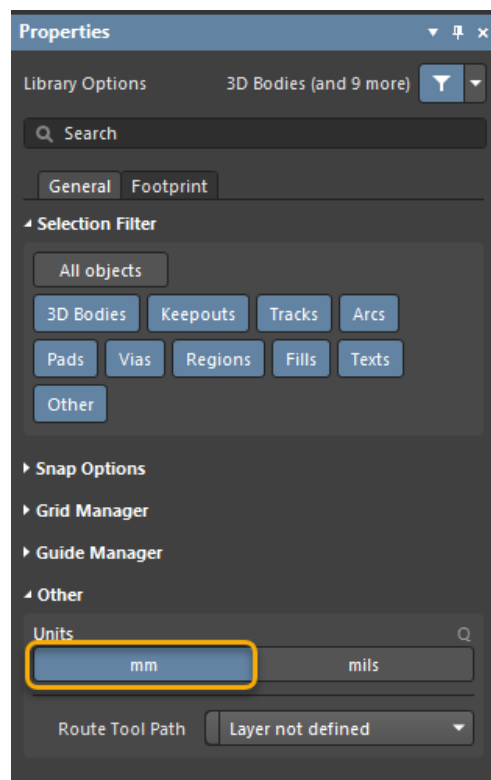

Figure 26. Measurement Units
39. Change the measurement units to **Metric**, by either using the **Q** key the when the editing space is active, or by scrolling down the *Properties* panel and selecting **mm**. See Figure 26 below.